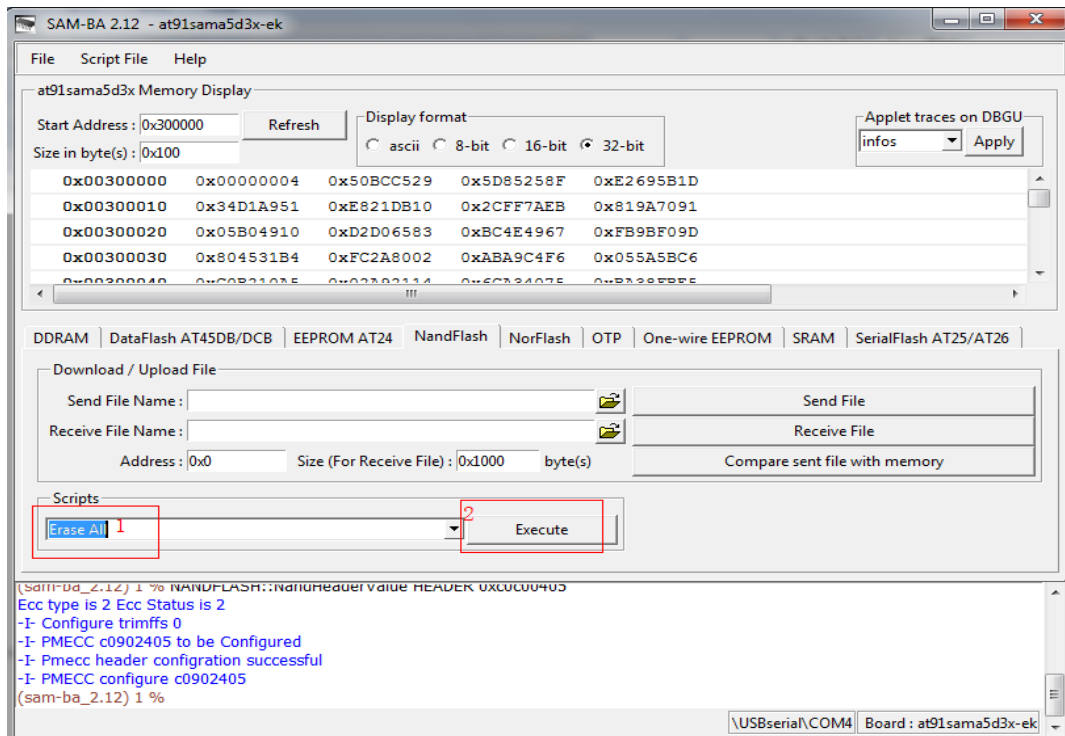

Figure 4-9
(5) Select Erase All in Scripts tab and then click Execute. Refer to figure 4-9: